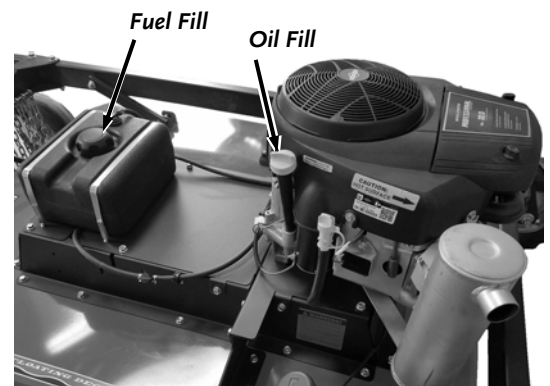

Figure 7
- Place the machine on a level surface and remove the Oil Fill Cap/Dipstick (**Figure 7**).